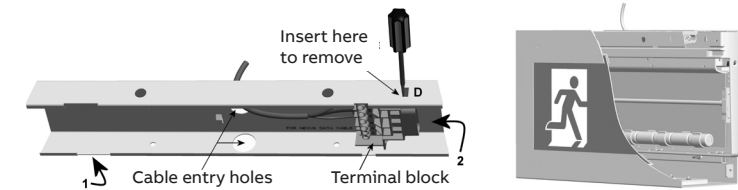

Figure 3: Frame insertion diagram
3. Remove the fitting from the bracket by gently inserting a small screwdriver into the slot (at 'D' in figure 3) on the front of the bracket towards the right hand end of the fitting to ease the locking tab into the fitting and away from the bracket. The fitting is then free to slide to the right along the bracket for about 50mm, at which time the slots line up and it can be lowered away from the bracket, allowing the two to separate.
7. Insert the side diffusers and appropriate pictograph inserts and tighten the thumbscrews by hand (inserts are fitted in between the clear polycarbonate outer panel and the opal acrylic inner panel). Attach the fitting to the mounting bracket by aligning the top left hand end of the fitting (the end without the protruding electrical connecting metal lugs) with the large cut-away slot towards the left hand end of the bracket. Slip the left hand end of the fitting up into the slot in the left hand end of the bracket (step (1) in figure 3) and hold the fitting horizontal to and parallel with the bracket. It should be approximately 50mm to the right of its final destination. Simply slide the fitting (step (2) in figure 3) 50mm to the left along and into the bracket to engage the connection and the locking tab. Once in place, the fitting cannot be removed from the bracket without the use of a tool (a small screwdriver) to push in the locking tab at 'D' in figure 3.